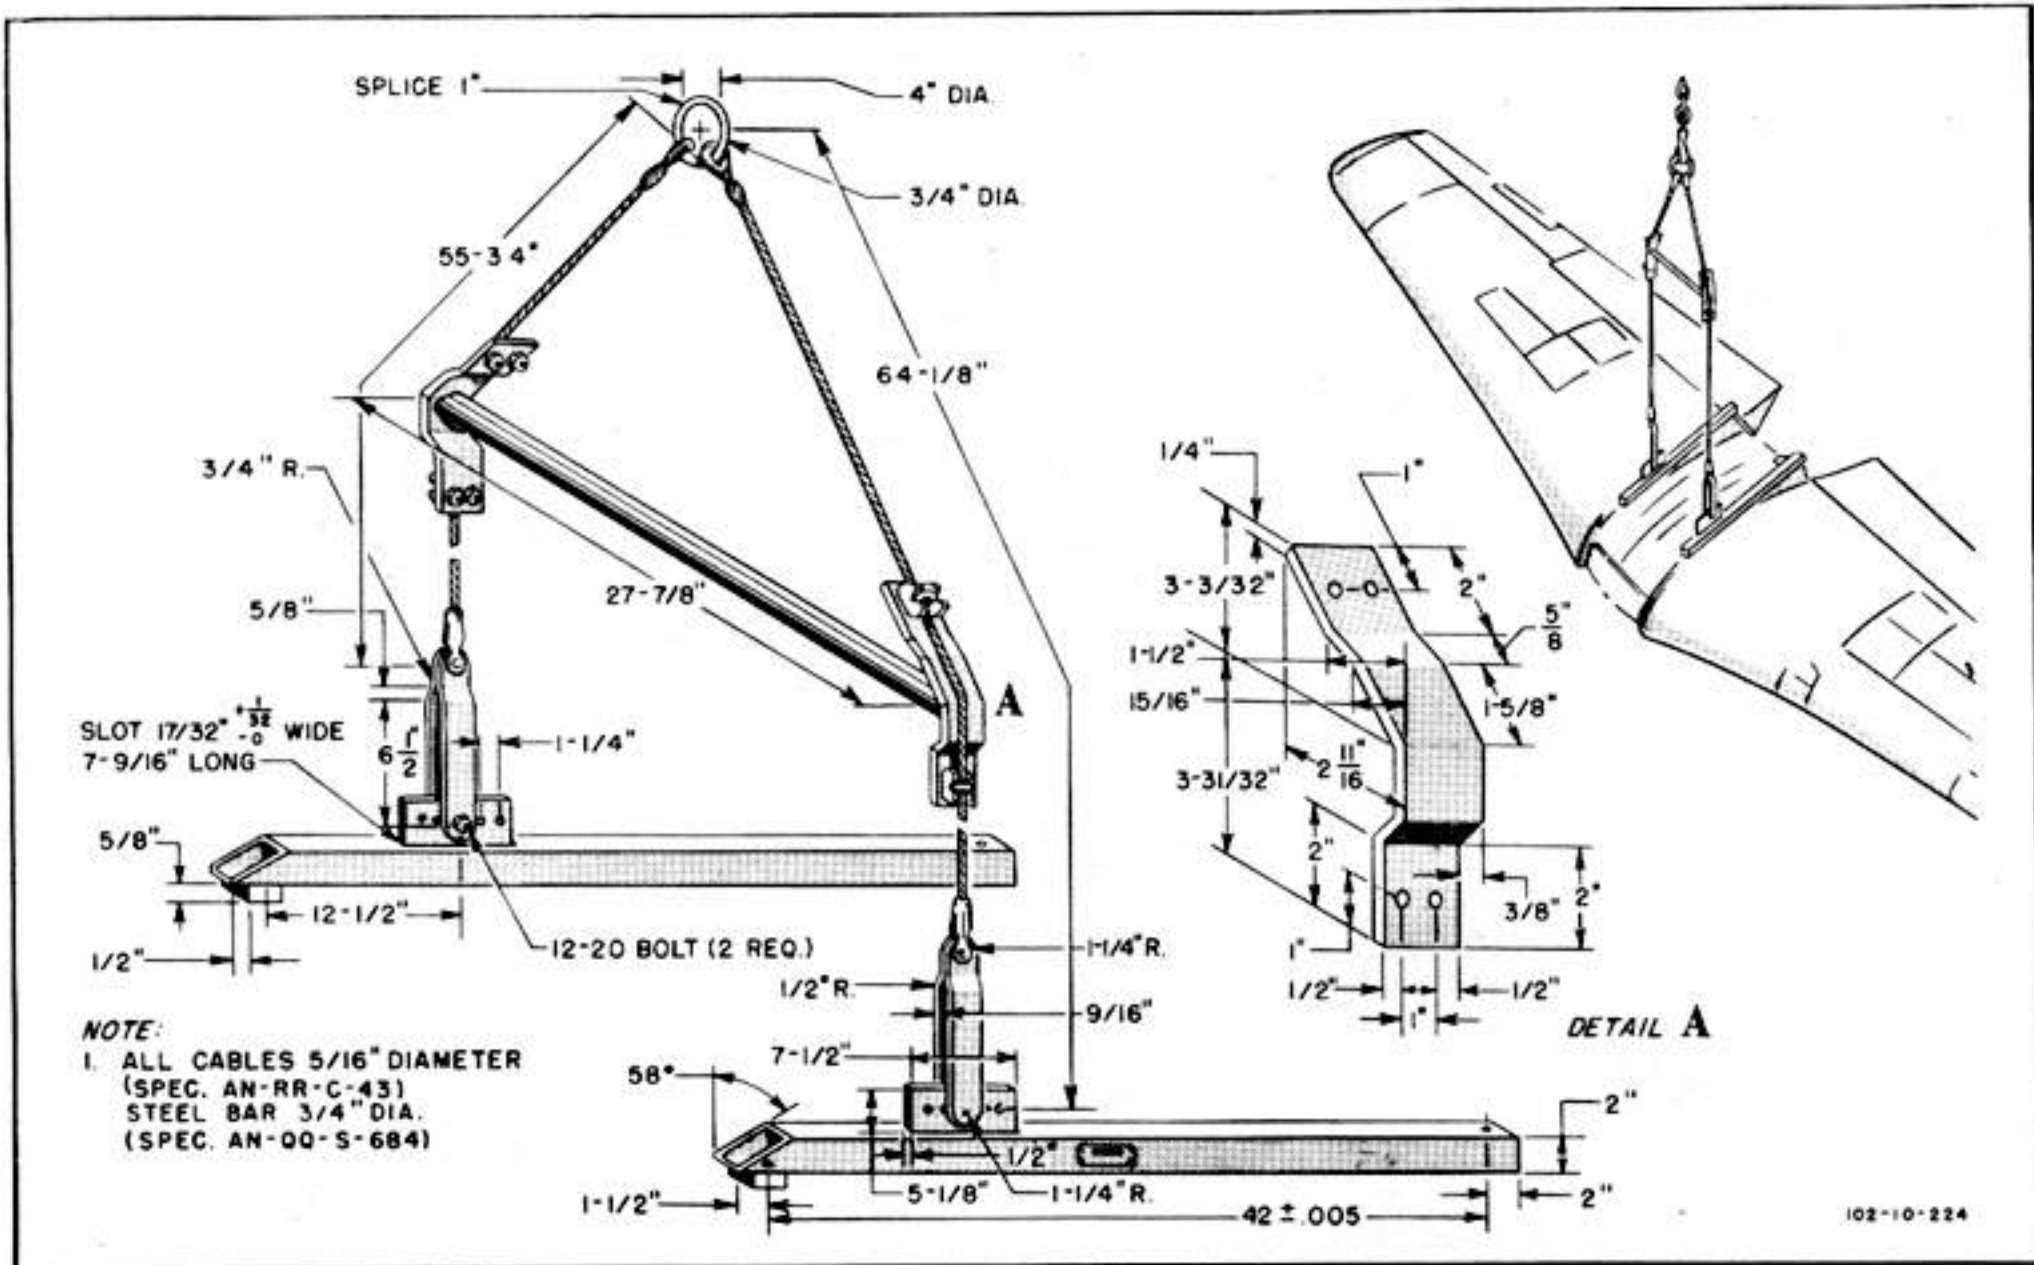

Figure 55—Wing Hoisting Sling
(4) HOISTING THE WING.—The wing can be hoisted with a single hoisting cable if an E719 hoisting sling (figure 55) is used. The sling bolts to the four wing-to-fuselage attachment mounts. By connecting the sling cables to the different holes in the sling frame, the wing can be hoisted horizontally or with the leading edge down. The wing weighs approximately 2500 pounds.
(5) HOISTING THE EMPENNAGE.—The empennage is installed in three units: the horizontal stabilizer and elevators assembled, the vertical stabilizer, and the rudder. Any one of the assemblies is light enough to be handled without a hoisting sling.
(6) HOISTING THE ENGINE.—The engine can be hoisted with or without the engine mount installed. The engine drained, with accessories, weighs approximately 2000 pounds with mount and 1800 pounds without mount.